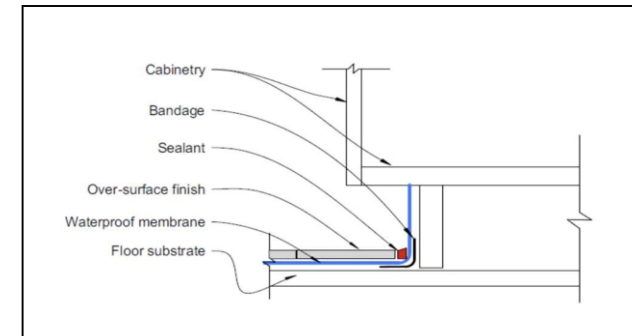

Figure 17: Waterproof membrane system installed after cabinetry
- ◆ Figure 17: Waterproof membrane system installed after cabinetry